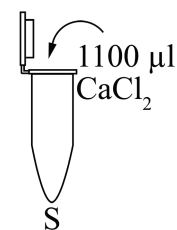

Fig. 9
4. Using the P1000 and P200 micropipettes, and sterile tips, add 1100 μ l CaCl_2 solution to tube “S” (Fig. 9).